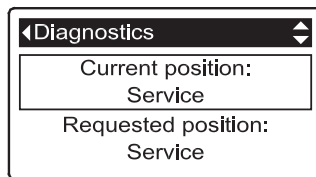

FIG. 160
4. Press the UP (▲) button to scroll through the list until **Current position** is displayed (See Figure 160).